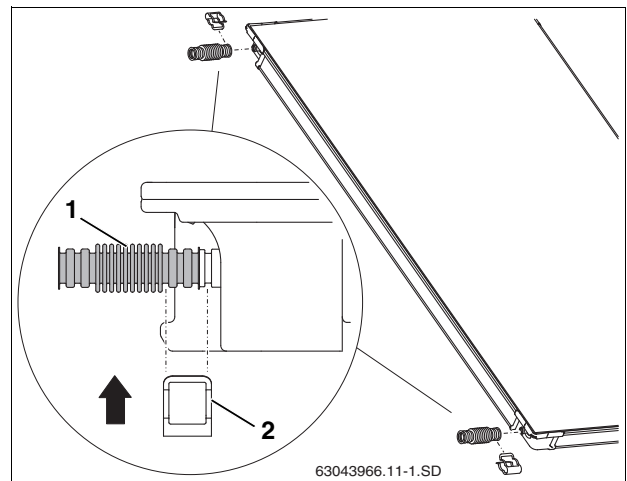

Fig. 42 Fitting corrugated pipe connectors to the first collector
- Push corrugated pipe connectors (Fig. 42, [1]) onto the connections where the next collector will be connected. Verify they are pushed in as far as they will go.
- Slide clip sideways (Fig. 42, [2]) over the corrugated pipe connector and collector connection to secure it in place.